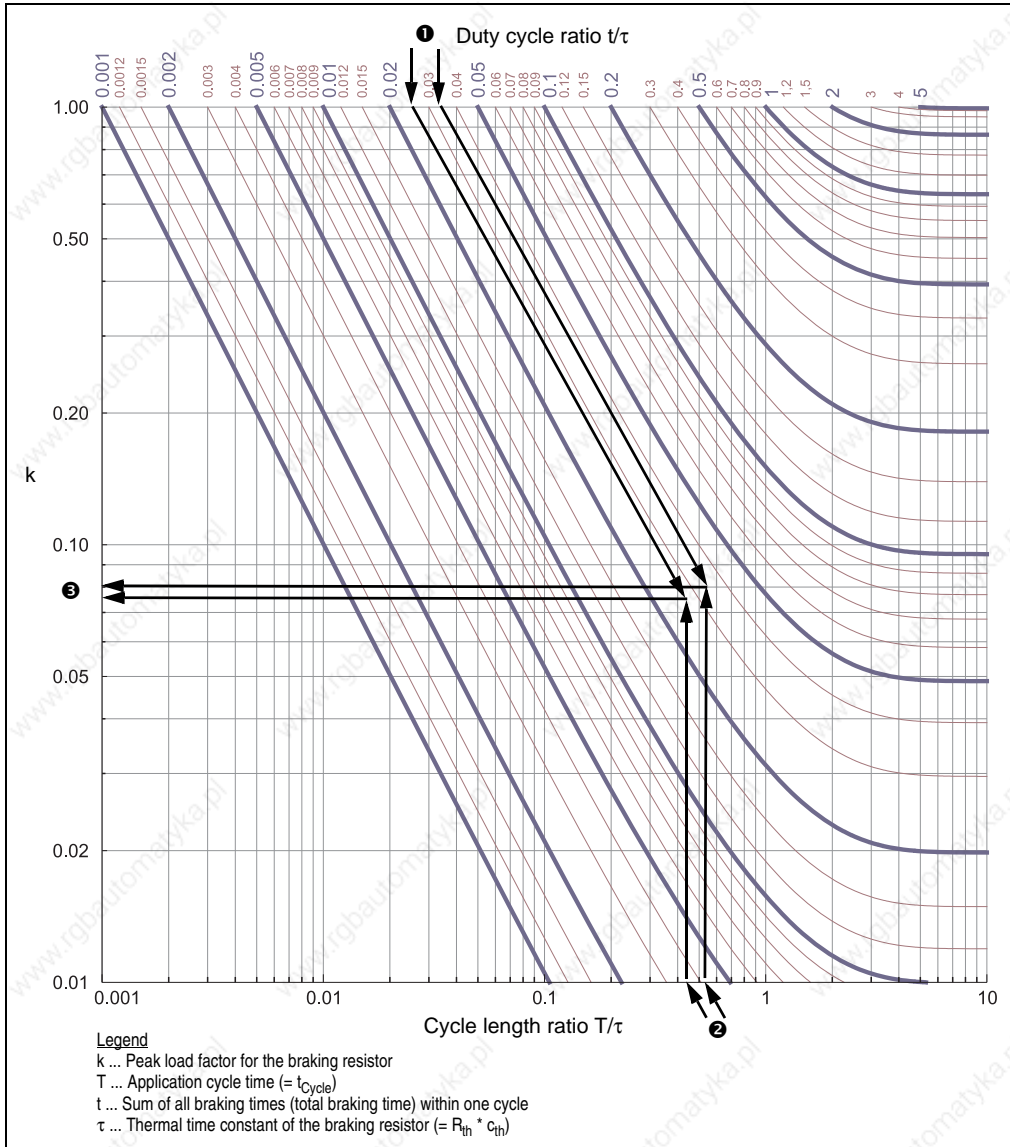

Figure 93: Determining the peak load factor k
❶ Calculation of the duty cycle ratio
❷ Calculation of the cycle length ratio
❸ Reading the peak load factor k based on the values from ❶ and ❷ in figure 93 "Determining the peak load factor k"